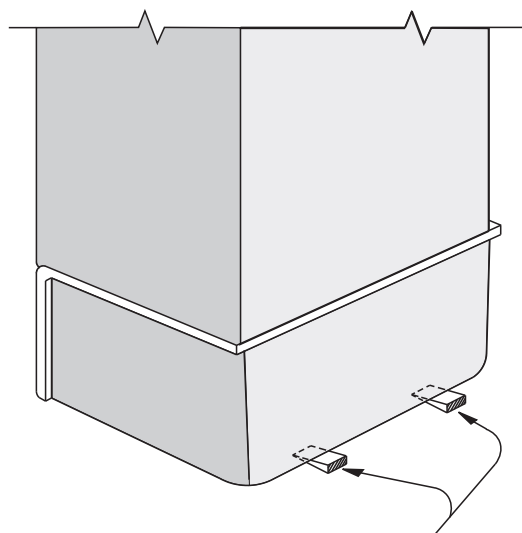

Figure 1 Wood Support Shims
3. Placement of the two wood shims (provided) is MANDATORY to provide bottom structural support of the base unit. See Figure 1.